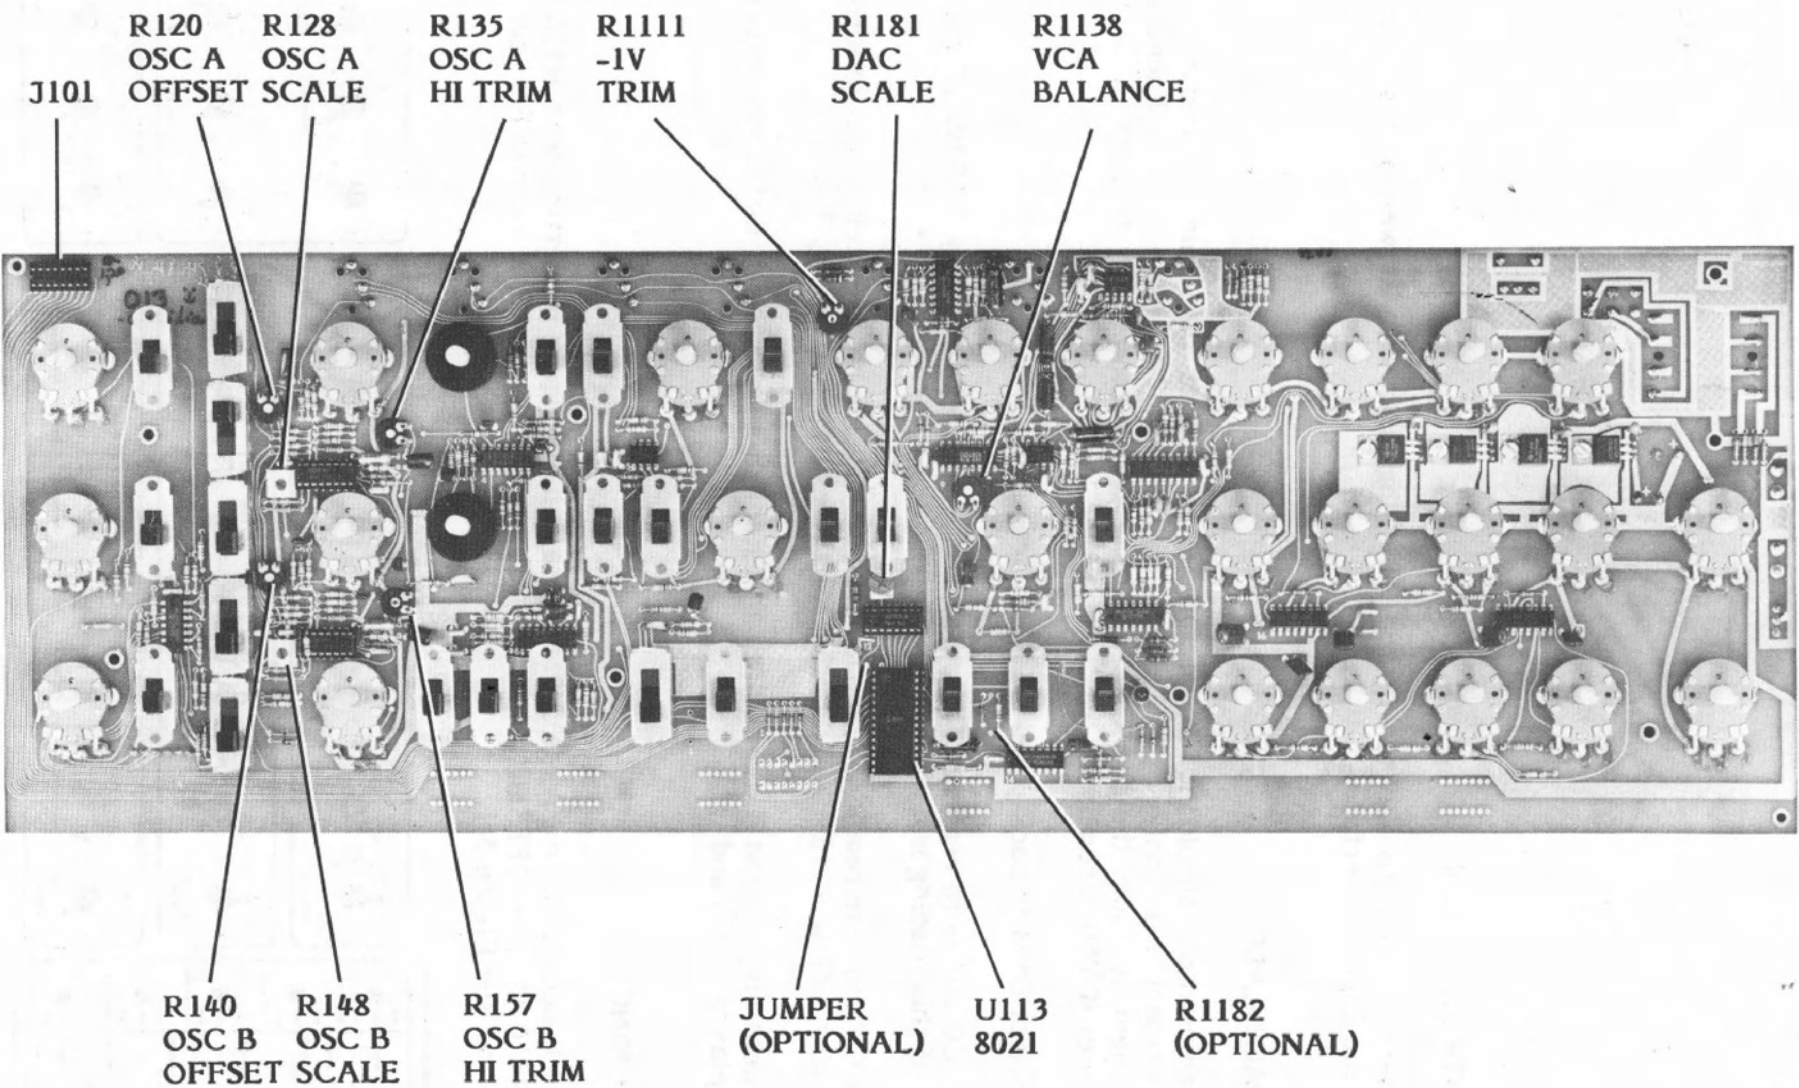

Figure 5-1
1. Patch according to Figure 5-0. Start a full tuning by presetting both R120 OSC A and R140 OSC B OFFSET trimmers to the middle of their range. For component locations, see Figure 5-1.
1. Remove U113 (see Figure 5-1) 8021 microcomputer from its socket. Keep it safe. Note that with the 8021 removed, the Pro-One's keyboard cannot operate.
3. Add R1182, 10K-ohm, 1/4W, 5% resistor where shown on Figure 5-1.